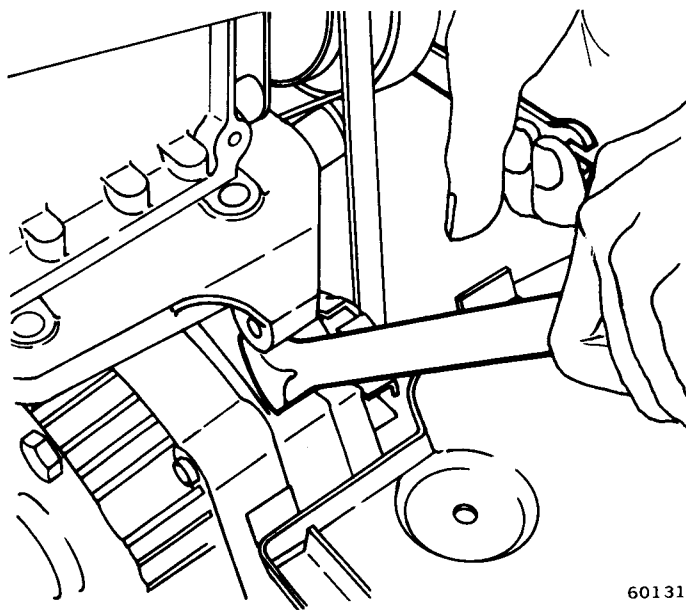

Fig. 2-12 Alternator Adjustment—Six-Cylinder with Air Conditioning
(4) Adjust alternator using a suitable pry bar. Snug adjust bolt (fig. 2-12).